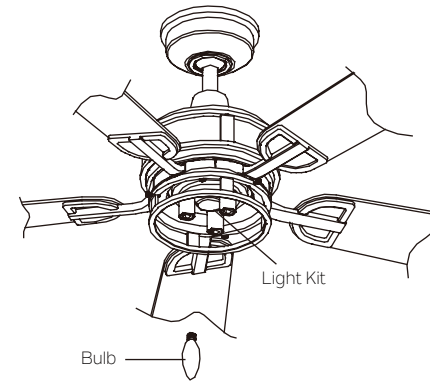

Fig. 23
Step 1. Install the 3, 4-watt B10 LED bulbs (included). (Fig. 23)